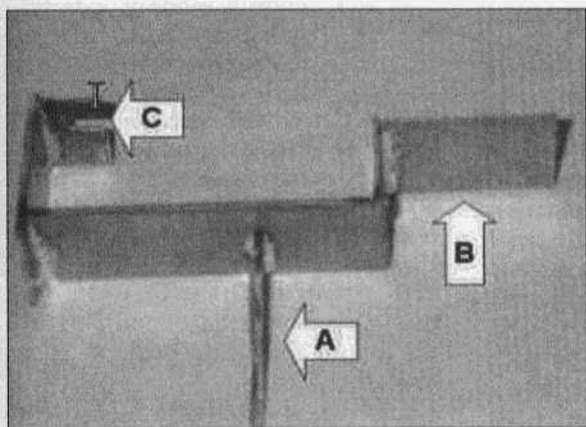

Figure 4.
The relay I used was Radio Shack part number 275-249A and sells for less than \$5. It's mounted in location 'B' on my PCB board layout. I chose to tie wrap mine to the bracket. Super Glue or RTV would also work. The relay was pulling about 60 mA when I tested it and I wanted to reduce the current flow as much as possible, but still maintain solid keying action. I ended up with a value of 120 ohms, in series with the coil, which got me down to about 20 mA draw. See Figure 4.
The new 6KC filter, International Radio (541) 459-5623, part number 2311 is mounted to location 'A' on the PCB board layout. See Figure 4.
2) Support 'C' (Figure 4). The slot should be cut to fit the filter stud indicated in Figure #2 of about 1/4 x 1/4 inches.
3) Mount filter to area 'A' on board. See figure 4.